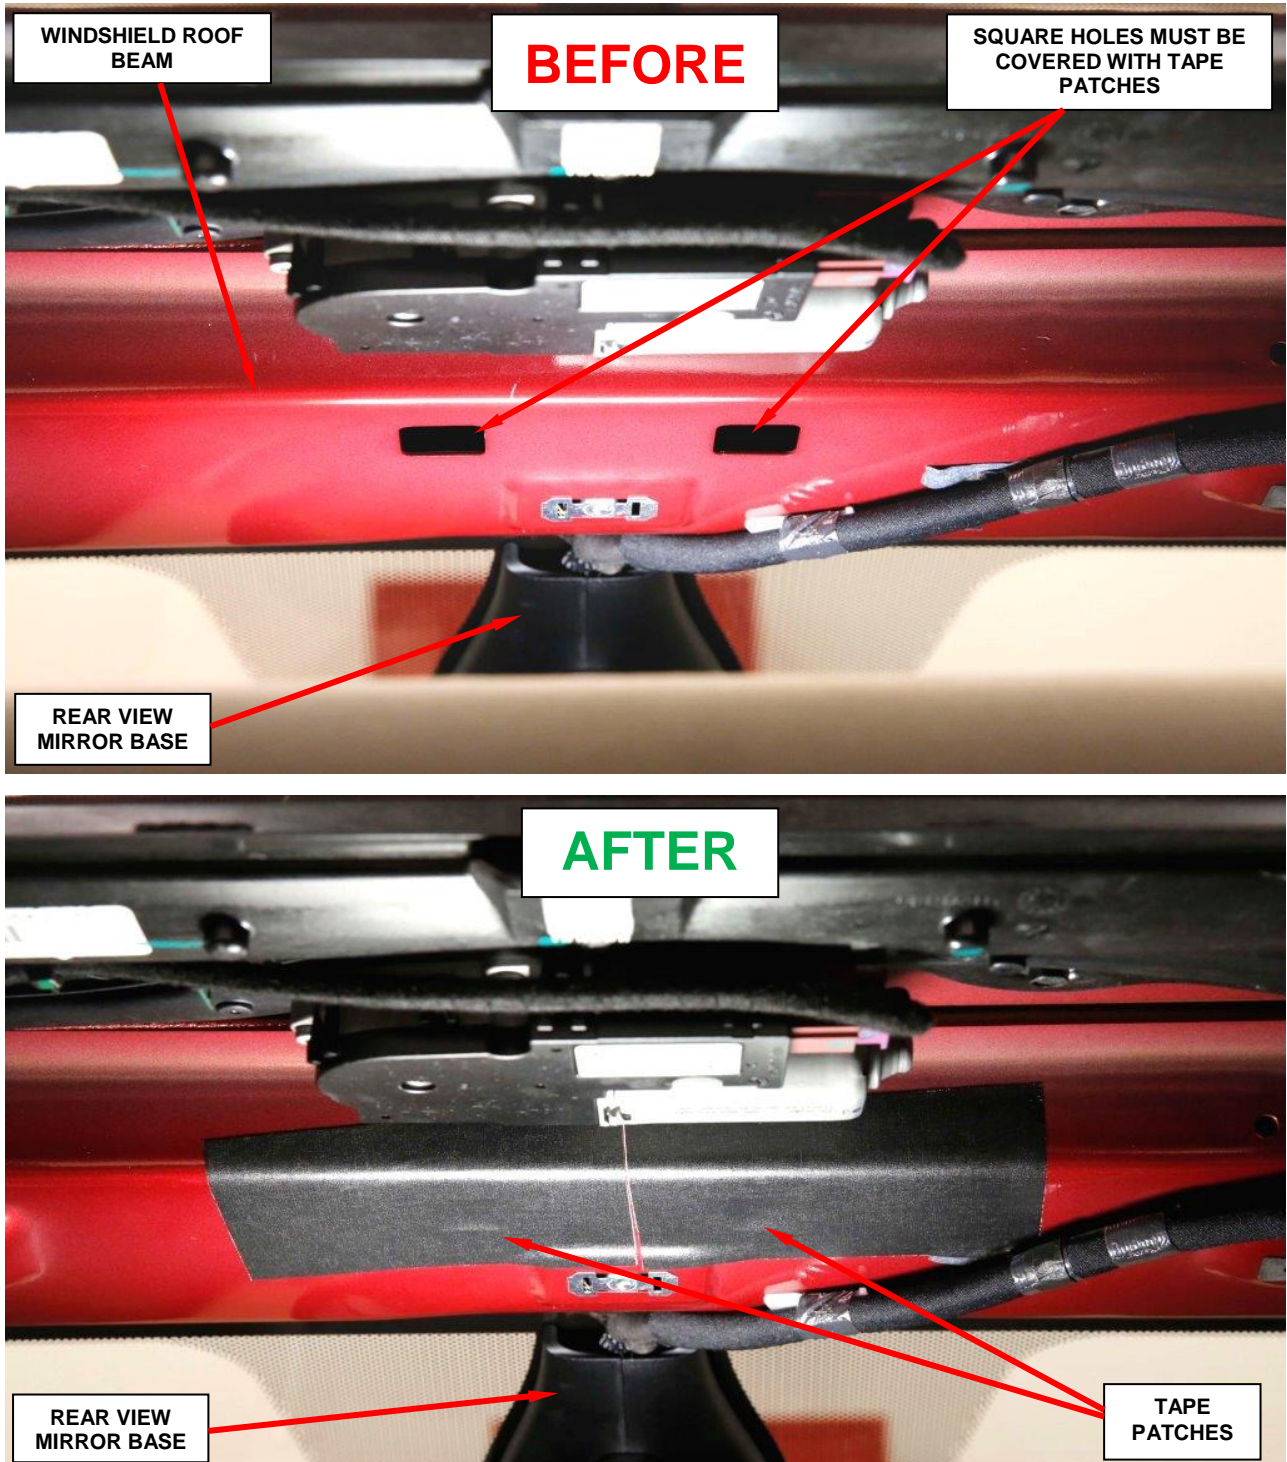

Figure 24 – Apply One Tape Patch Over Each Square Hole in the Windshield Roof Beam (vehicle with sunroof option shown)
51. Apply two tape patches over the square holes in the center of the windshield roof beam (Figure 24).